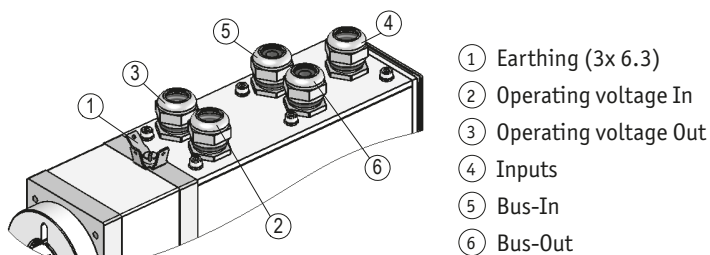
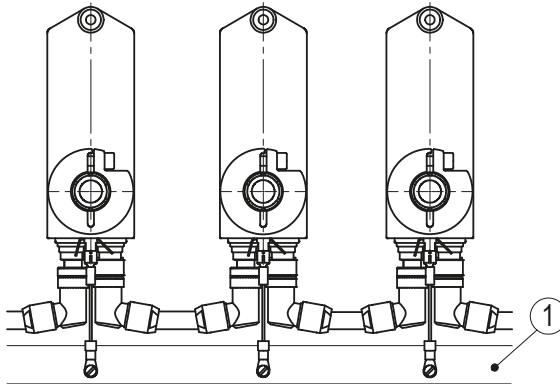

Fig. 6: Connection E1/PG (5x PG9)
Fig. 11: Ground bar
For protection against interference, the screens of the signal lines and the power line must be connected on both sides. Potential differences cause inadmissible currents on the screen. Apply the PE connection ① to the protective conductor potential below the connecting plugs (see Fig. 4 or Fig. 6). Use 6.3 mm flat connectors with short strands 2.5 ... 4 mm² (not in the scope of delivery). For multiple actuators we recommend connecting the earthing to a ground bar ① (see Fig. 11).